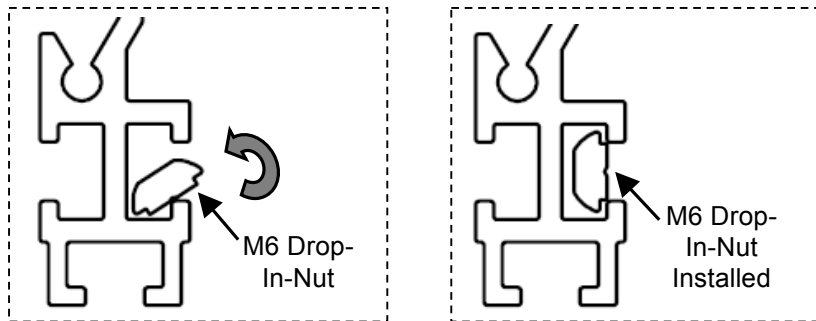

Fig. 7
4. Insert Drop-In Nuts in top slide for top bracket (Fig. 7).